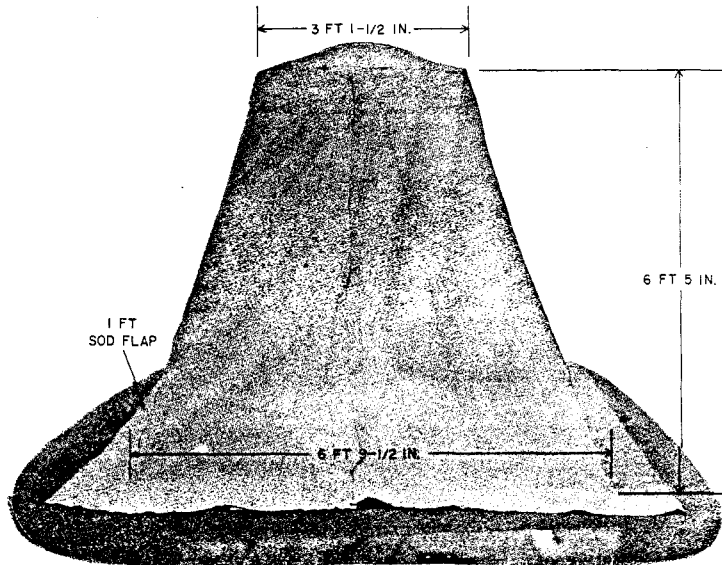

Fig. 1 — Ground Tent
2.01 The Ground Tent (Fig. 1) consists of a cover and a frame.